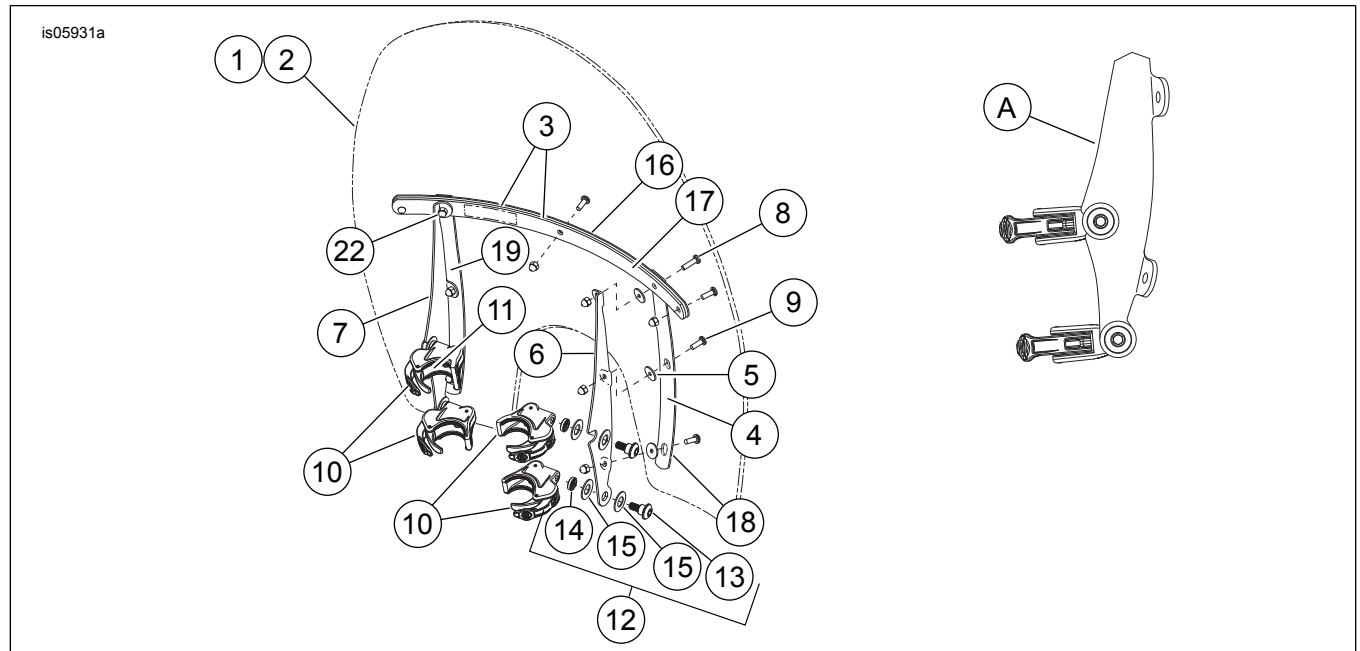

Figure 3. Service Parts: Quick Release Detachable Windshield Kits
See Figure 3 and Table 1.
2. See Figure 3 and Table 1. Remove both the clamp and hardware kits from the packaging, and separate similar parts in preparation for assembly.